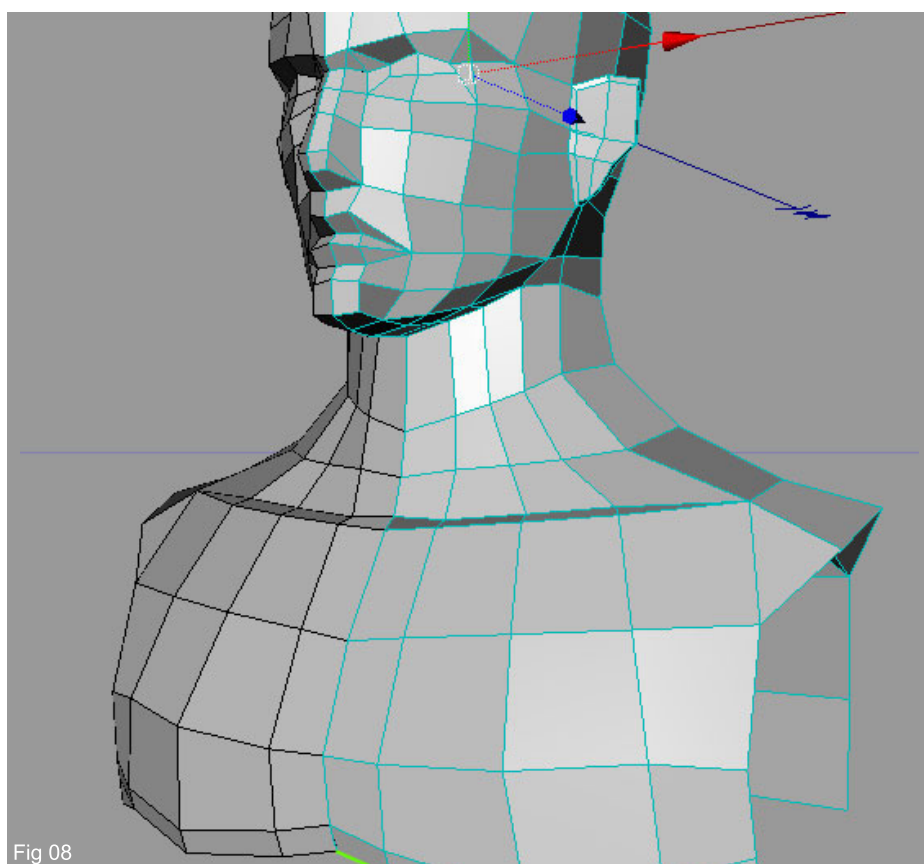

Fig 08
8. On the front, extrude the edges like shown (Fig08) and pull them inwards to form the lower part of the chest. Also add in a small cut indicated by the red line.